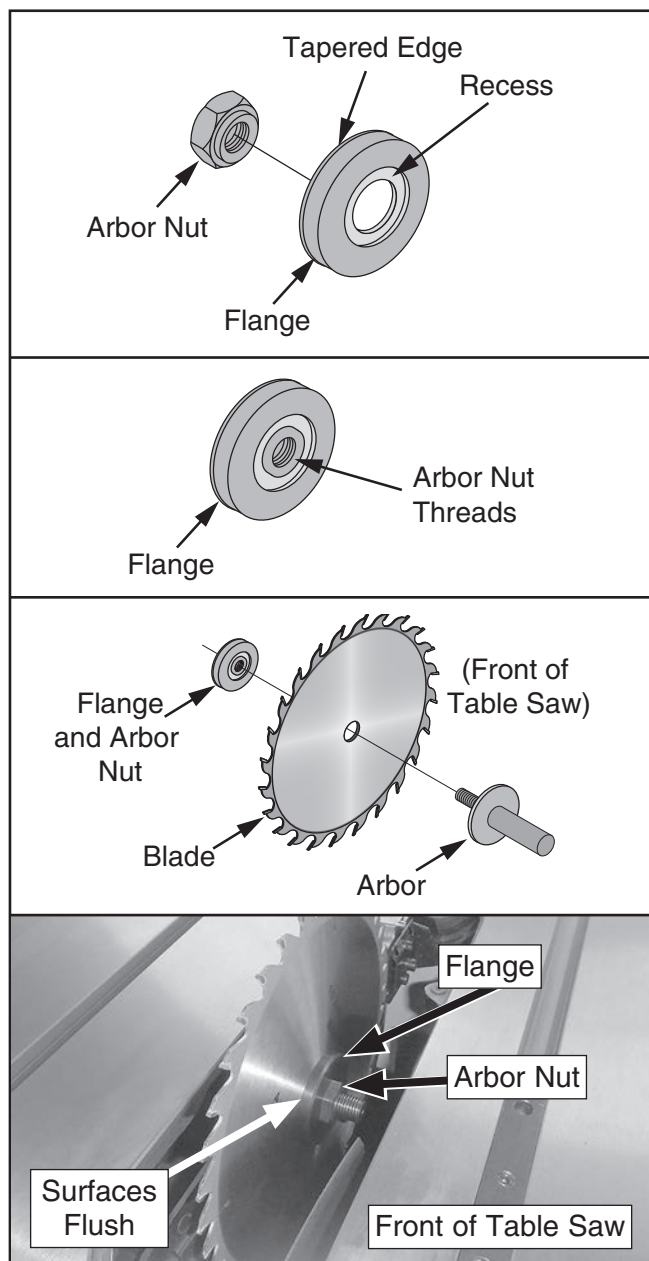

Figure 45. Blade order of installation and teeth facing correct direction.
5. Install new blade, flange, and arbor nut on arbor, as shown in **Figure 45**, with upper teeth facing front of saw. Ensure the tapered edge of the flange faces the arbor nut and the recess faces away from the arbor nut. The arbor nut should be flush with the outer surface of the flange.